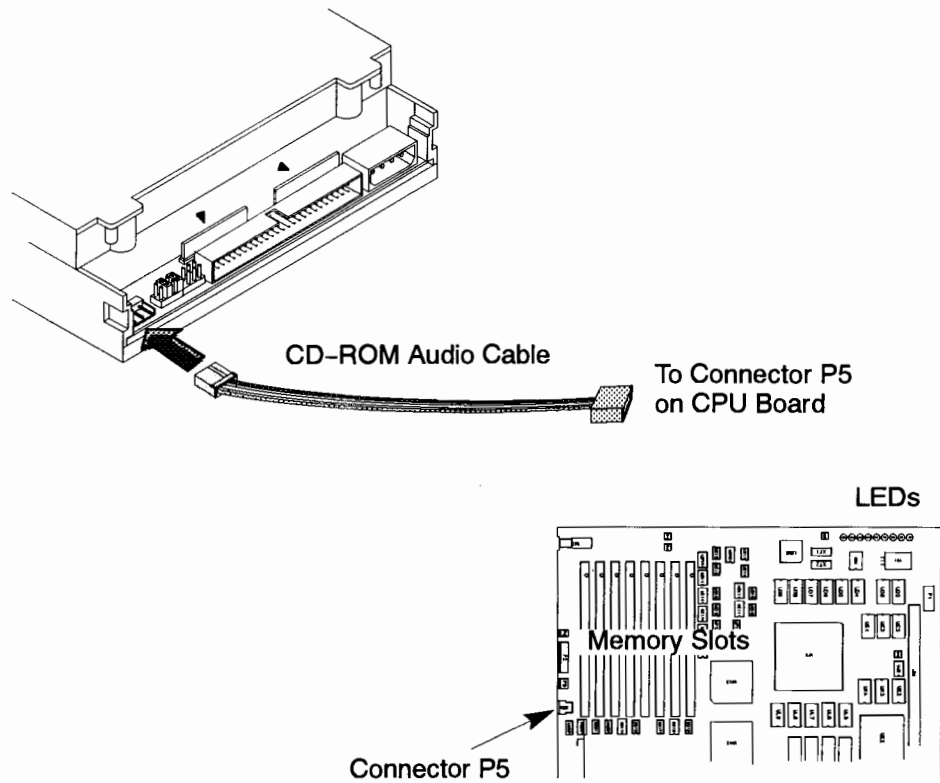

Figure B-22. Connecting the CD-ROM Audio Cable
- 10.** Locate the 3-pin audio cable that came in the CD-ROM drive kit. Plug the smaller connector on the cable into the audio connector on the back of the CD-ROM drive. Plug the large connector on this cable into connector P5 on the CPU board, as shown in Figure B-22.